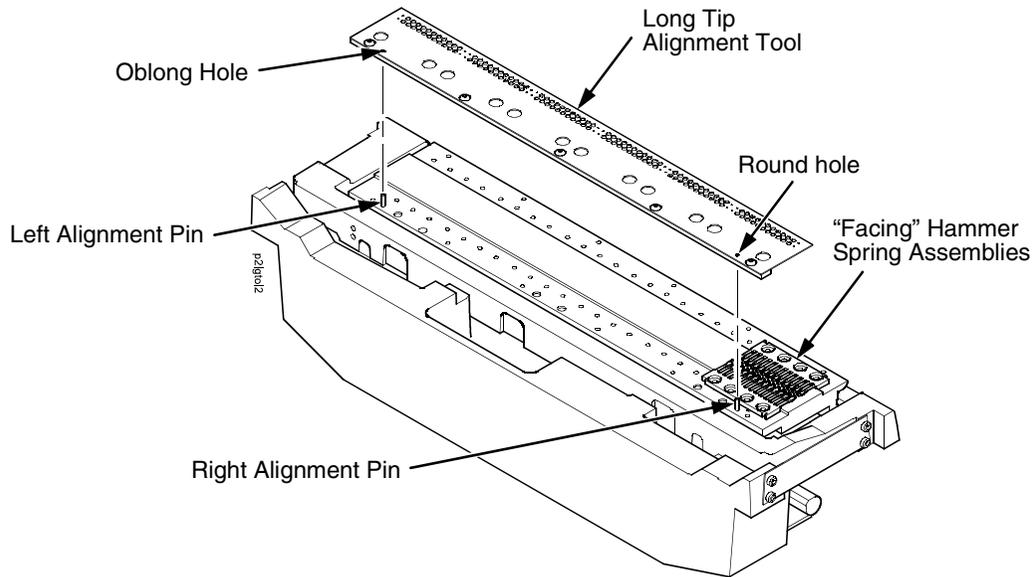

Figure 30. Positioning the Long Alignment Tool
2. Place the hammer bank on a work surface with the alignment pins on the side nearest you. (The alignment pins are shown in Figure 30.)
5. Gently position the long Tip Alignment Tool so the right alignment pin on the hammer bank is in the round hole in the tool, then lower the tool until its oblong hole fits over the alignment pin on the left side of the hammer bank. (See Figure 30.)